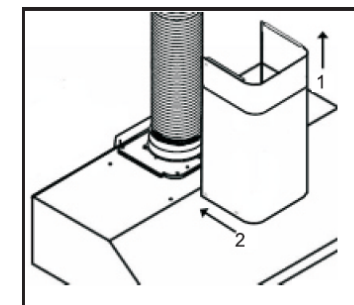

Fig. 2e
- n. Adjust the duct cover to the desired height and slide it into the duct cover mounting panel and bracket. (**Fig. 2e**)